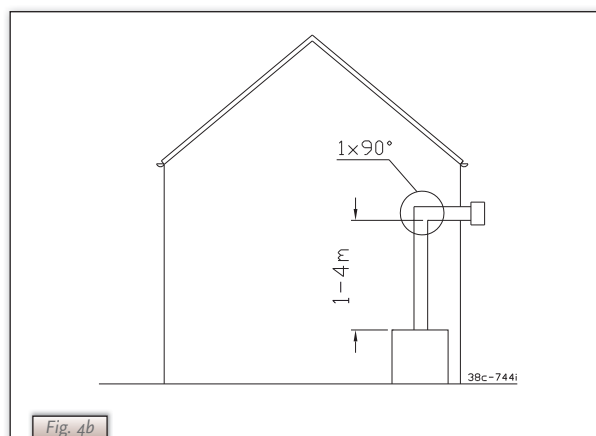

Fig. 4b
a) a minimum 1 meter up to maximum 4 meter vertical pipe length in combination with a 90° bend and a wall duct (i.e. no horizontal part; see Fig. 4b).